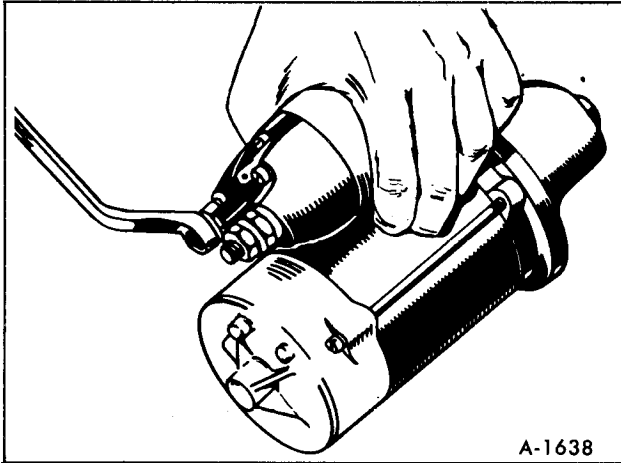

Figure 49—Removing Connector Lead
1. Loosen the nut that attaches the solenoid motor terminal to the field coil connector lead and take off the connector lead (figure 49).